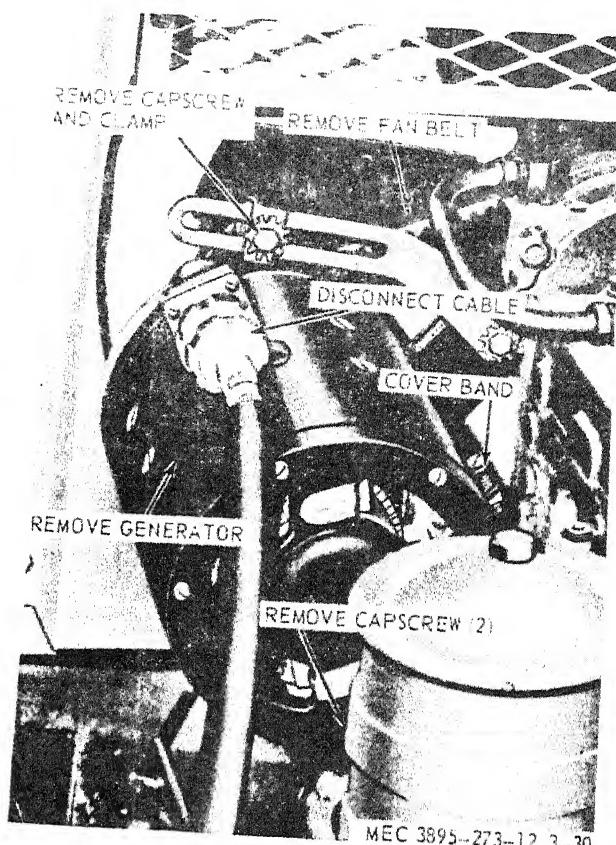

Figure 3-27. Generator, removal and installation.
a. *Removal.* Remove the generator as instructed on figure 3-27.
- (1) Clean all parts with an approved cleaning solvent.
- (2) Inspect the brushes for wear and damage. Brushes that have worn to 1/2 inch or less in length should be replaced. Replace brushes as necessary. Refer to paragraph d.
- (3) Inspect the generator for damage and proper operation. Replace a damaged or defective generator.
- (1) Install the generator and drive belt in reverse of the instructions on figure 3-27.
- (2) Adjust the generator drive fan belt (para 3-18).
- (1) Remove cover band from generator (fig. 3-27).